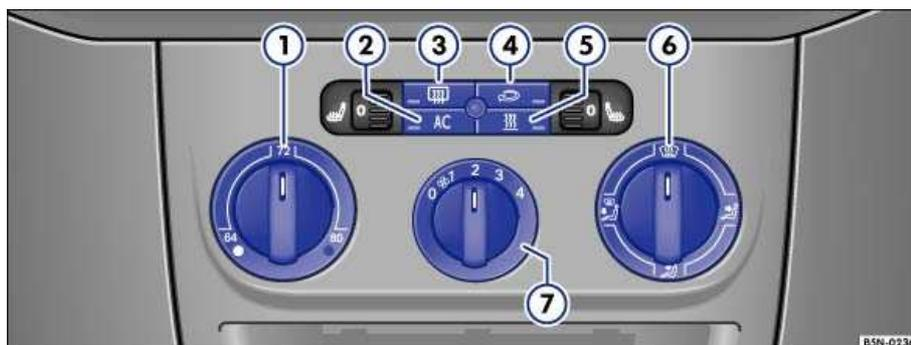

Fig. 101 Climatic air conditioner controls in the center console.
- Turn off the air conditioner by pressing the **AC** button (2). The indicator light on the button goes out ⇒ Fig. 101.
- Turn the temperature selector (1) to the right until you reach the desired temperature setting ⇒ Fig. 101. We recommend +72° F (+22° C).
- Turn the fan switch (7) to one of the fan speed settings (1-4).
- Use the air distribution control (6) to direct the air flow where you want it:  (to the windshield),  (to the upper instrument panel outlets),  (to the footwells) or  (to the windshield and the footwells).